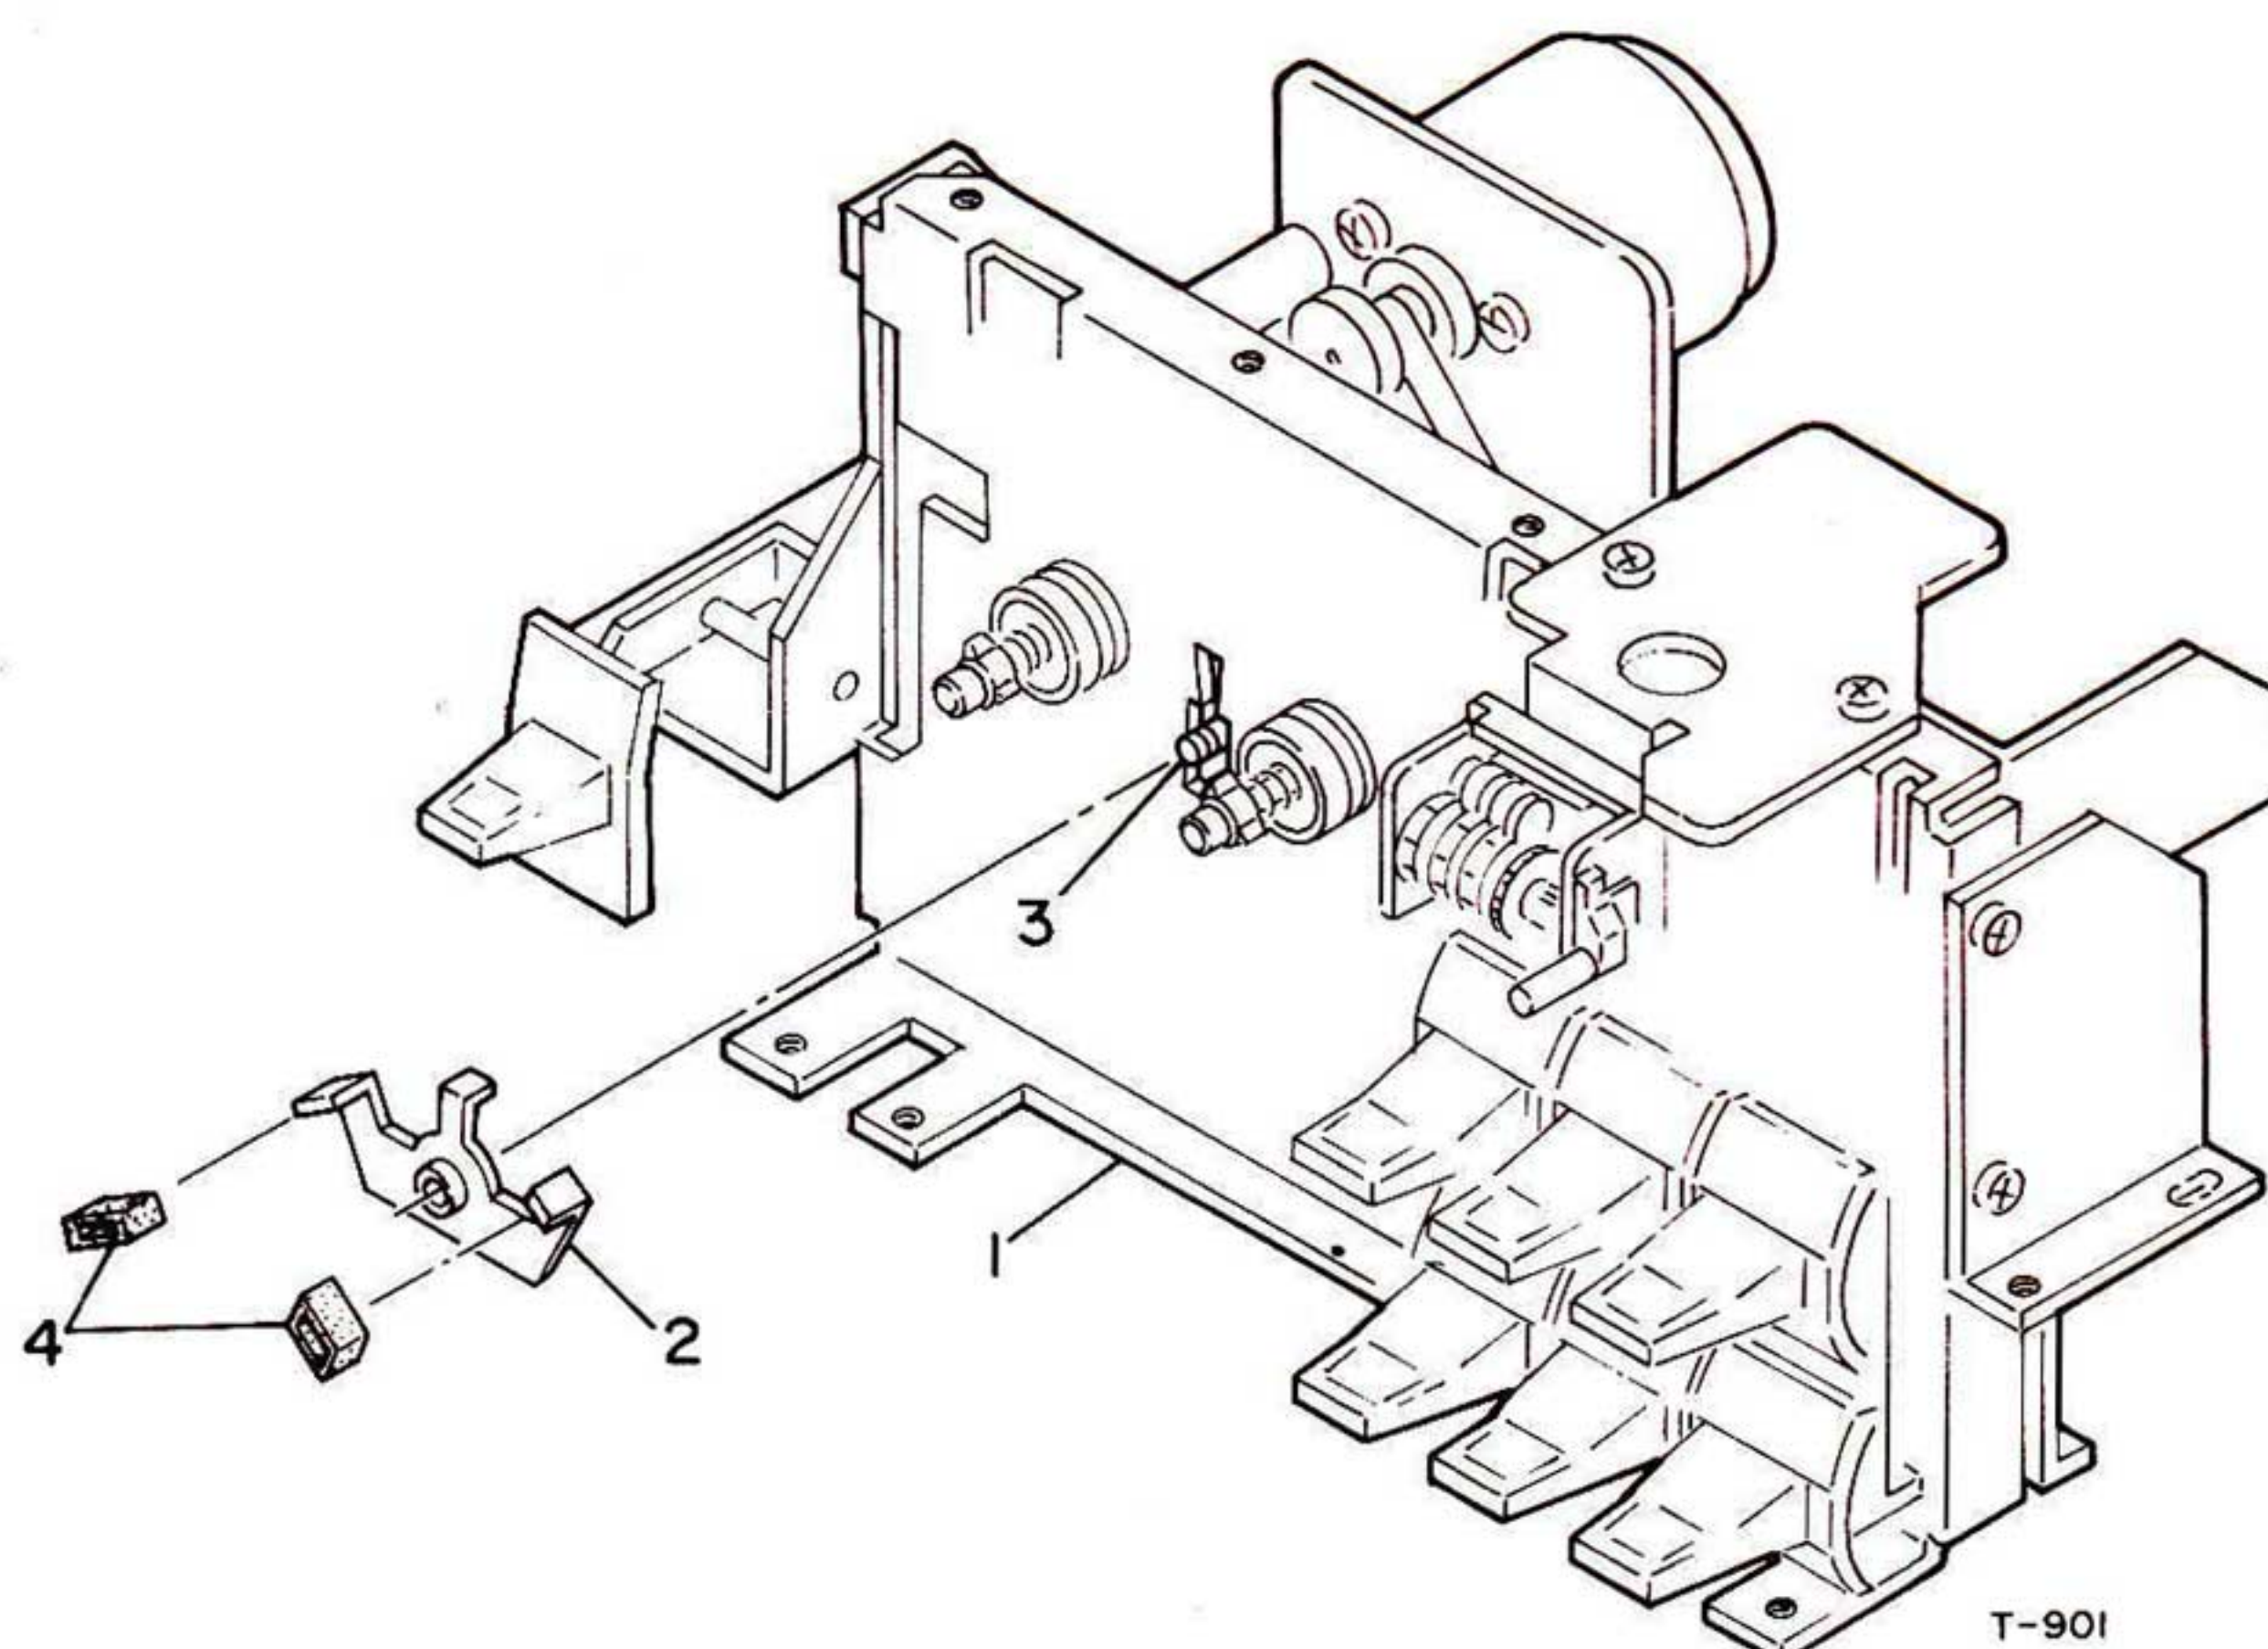

Fig. 4-4 Brake Arm and Brake Shoe
4. If brake action is too "tight" or "loose", adjust by bending the arms of the Brake Bracket in or out as necessary. See Fig. 4-4 on page 8.